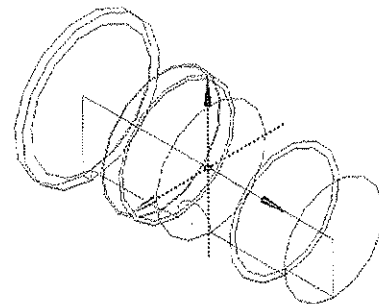

Figure 5-62 Preview of the revolved feature
4. Next, click on the X axis; the preview of the revolved feature is displayed in the **Graphics** window, as shown in Figure 5-62.